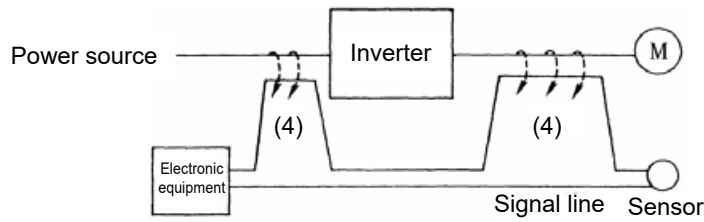
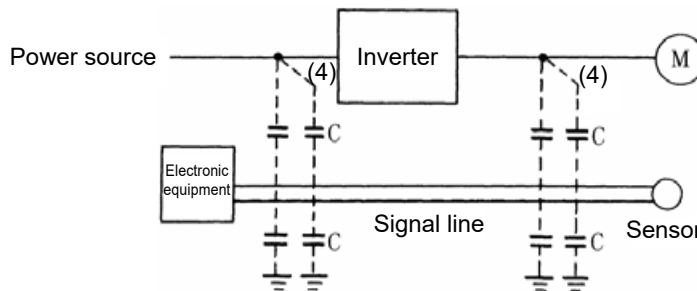

Fig. A.2-4 Electromagnetic induction noise
Fig. A.2-5 Electrostatic induction noise
**(2) Induction noise**
When wires or signal lines of peripheral devices are brought close to the wires on the input and output sides of the inverter through which noise current is flowing, noise will be induced into those wires and signal lines of the devices by electromagnetic induction (Fig. A.2-4) or electrostatic induction (Fig. A.2-5). This is called “induction noise” (4).